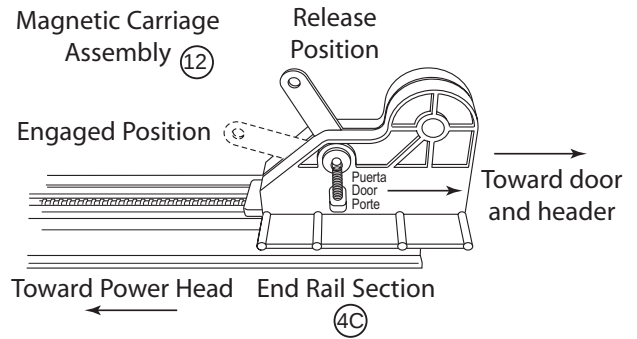

Figure 12 Slide Magnetic Carriage onto Rail
- B** Slide Magnetic Carriage Assembly into slot on End Rail Section with arrow pointing away from the Power Head (Figure 12).